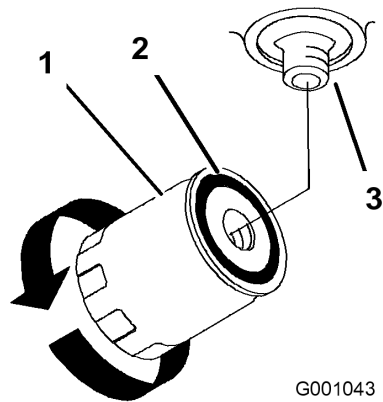

Figure 52
4. Locate filter under engine base and place drain pan under filter (Figure 52).
5. Remove the old filter and wipe the filter adapter gasket surface clean (Figure 52).
9. When the hydraulic filter is full, turn the oil filter clockwise until the rubber gasket contacts the filter adapter, then tighten the filter an additional 1/2 turn (Figure 52).